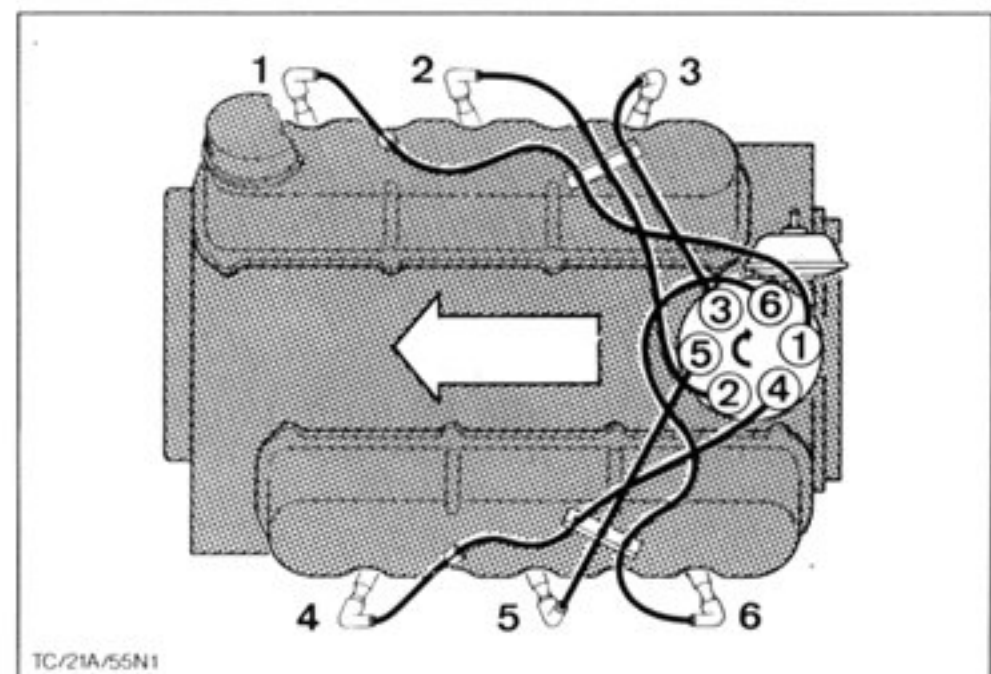

Fig.105. Arrangement of HT leads (firing order).
If the pulley is now turned to and fro a little, the valves of cylinder No.1 or No.5 will be on overlap, i.e. both rockers and push-rods will be moving in opposite directions. If the valves of cylinder No.5 are rocking in this way, the valve clearances of cylinder No.1 should be adjusted. If the pulley is turned through a further 120°, the valves of cylinder No.3 will be rocking and the valve clearances of cylinder No.4 can be adjusted, and so on in accordance with the firing order, Fig.105. For setting values, see Technical Data.
5. Fit rocker covers with new gaskets and tighten. Connect HT leads, Fig.105.